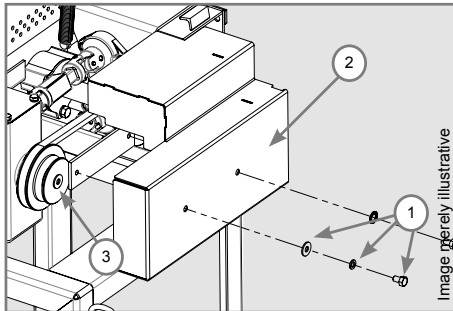

Figure 5
1. Remove the screws and washers (1) and the belt cover (2), as per Figure 5.
2. Loosen the nuts (1) which secure the gearbox in the machine until they are loose, but do not totally remove them, subsequently, loosen the screw (2) which tensions the belt (fig. 5).
3. Change the belt from pulley groove (3) according to the size of material intended to be cut (fig. 5).
7. Replace the belt cover, the screws and washers, as per Figure 5.